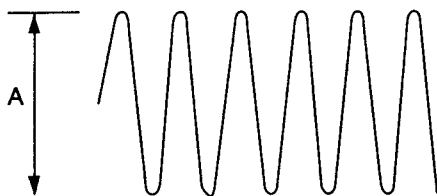

Figure 10
- c) Adjust the A amplitude maximum by controlling L152 (see Fig.10)